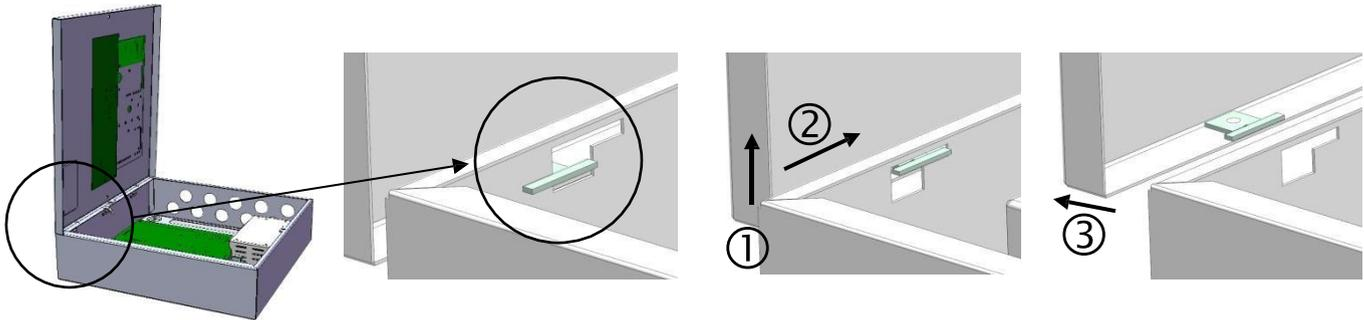

Figure 4
- Remove the front cover as dismantle the side hinges first (Figure 4). Do not remove the cables from the terminals on the indication PCB, situated on the back side of the front cover!
- Mount the front cover back to the bottom as mount the hinges in the reverse order of that described on Figure 4.